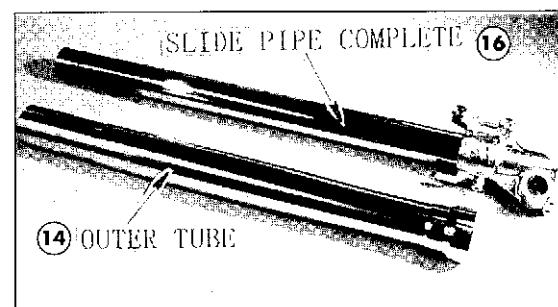

Fig. 2
2) Outer tube and slide pipe (Fig. 2).